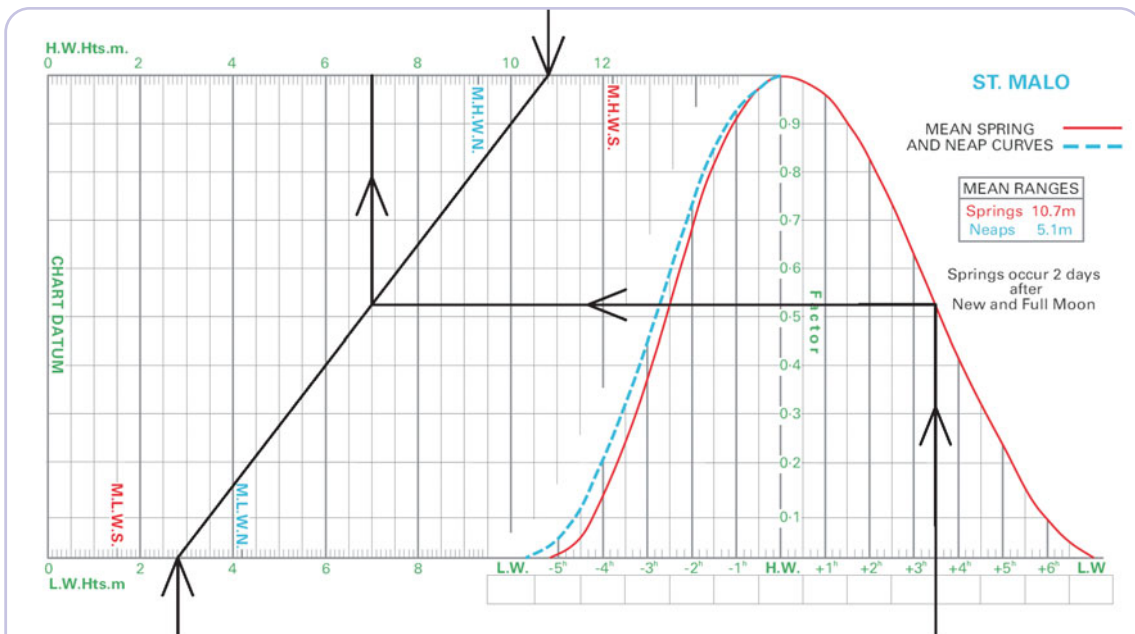

Fig 58 Example 1 for tidal heights. (Source: *Reeds Nautical Almanac.*)
- 2 Mark the height of low water on the scale at the bottom left of the tidal curve, and the height of high water on the corresponding scale across the top, and join these two marks with a straight line (see Figure 58).